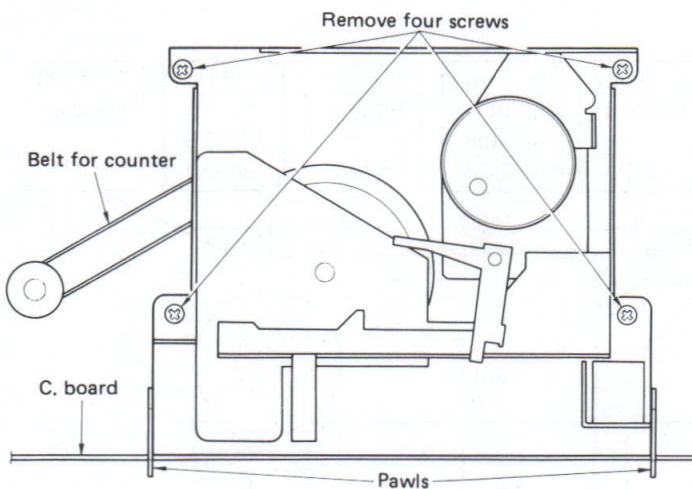

Fig. 1
- 5) Remove the four screws (yellow bind head, 3 x 12) shown in Fig. 1 used for fixing the mechanism ass'y.